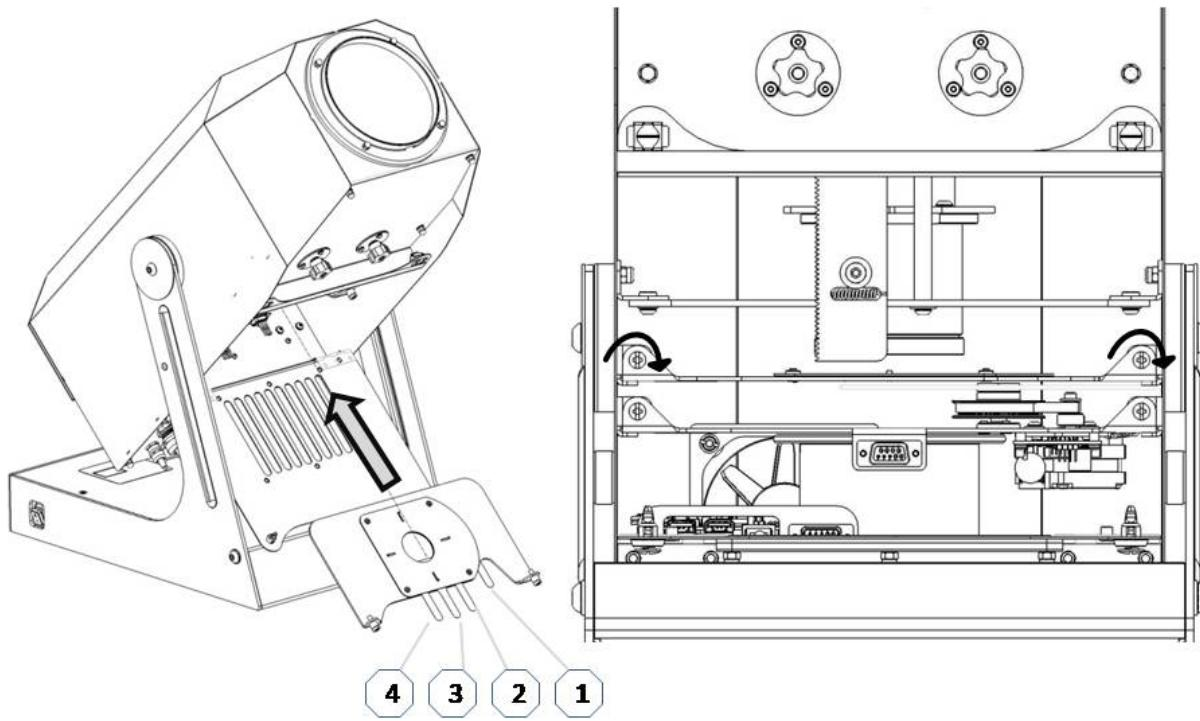

Fig.14
2. Insert component 1 into the projector as in Fig.14.
3. Tighten the molding fixing screws (Fig.14).